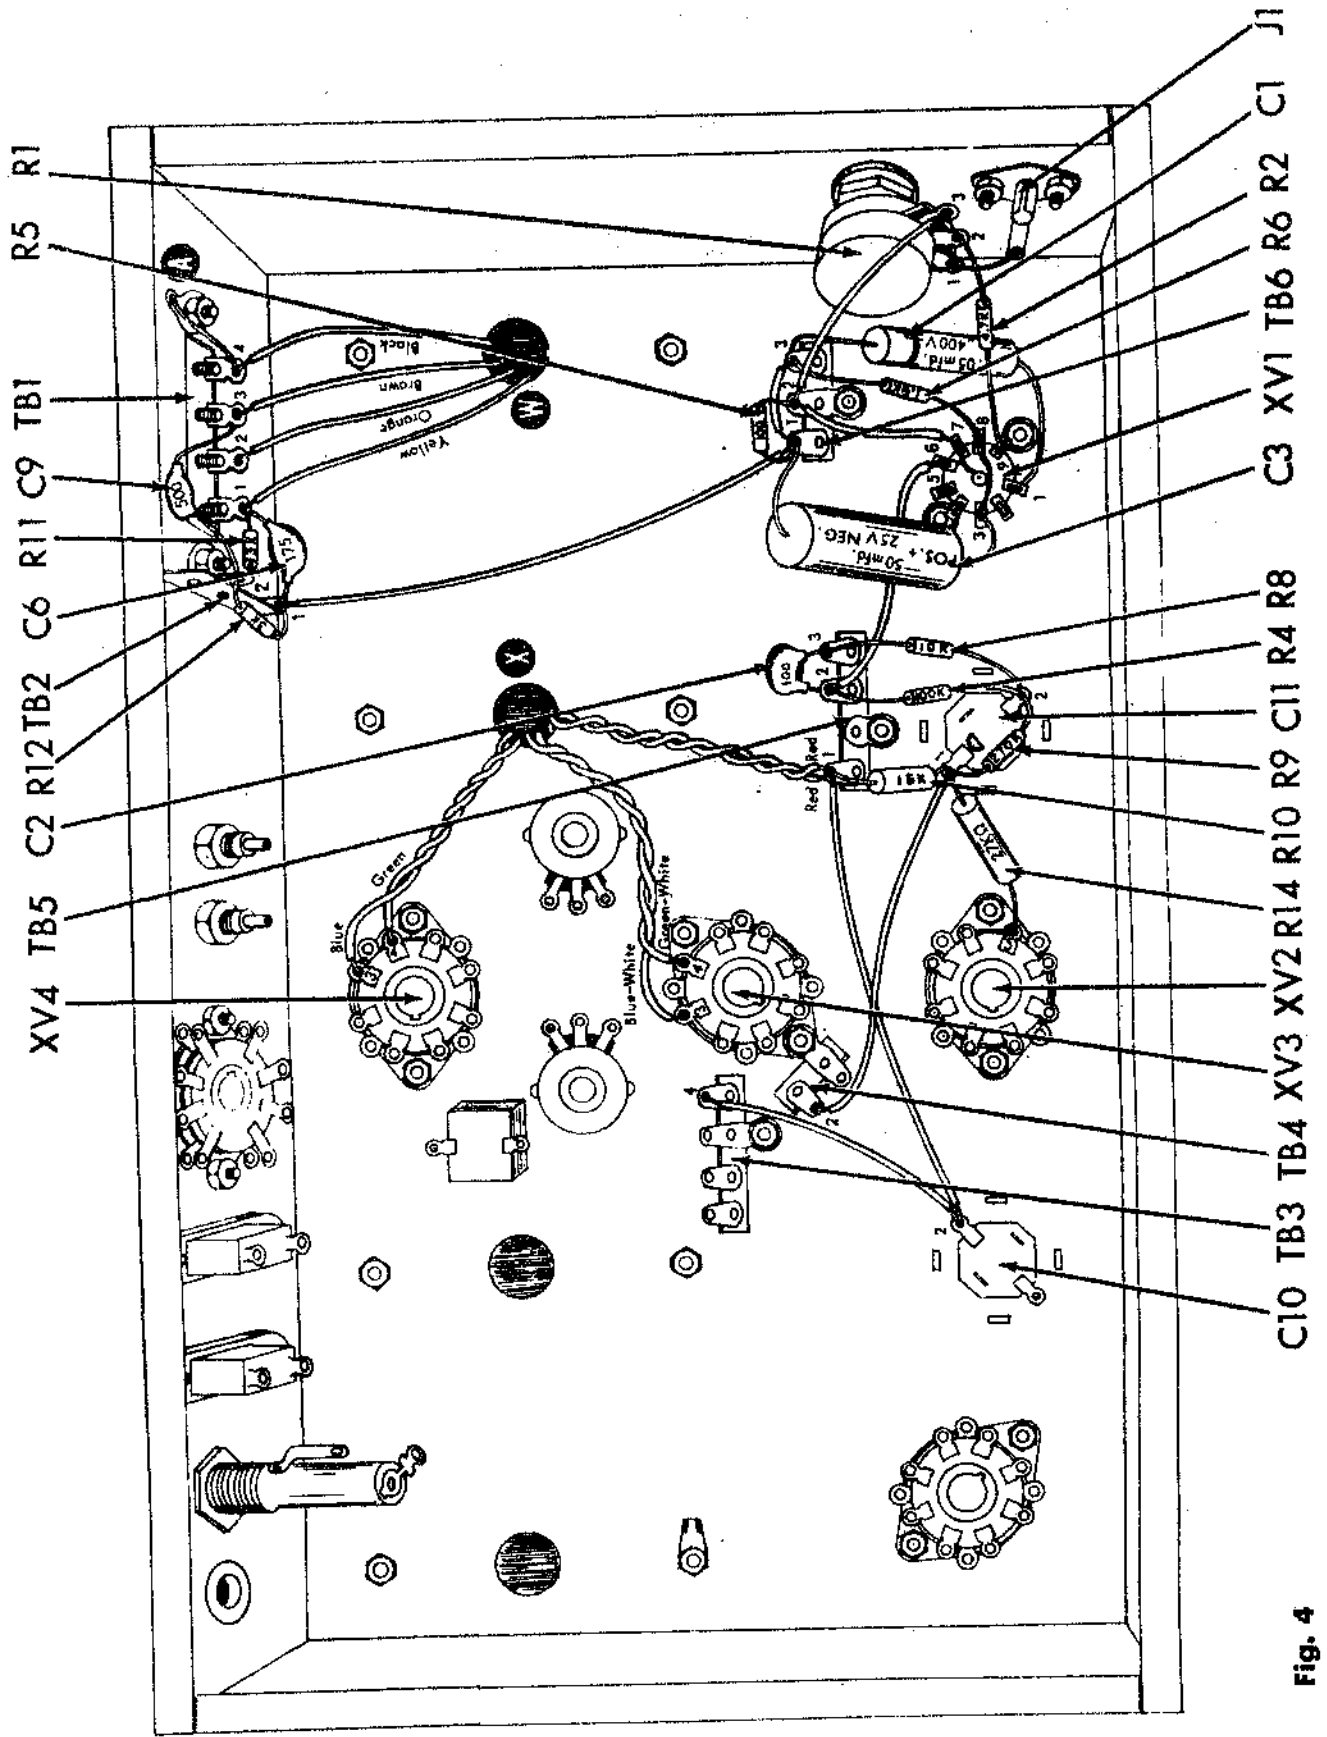

Fig. 4
7. () Fig. 2, side C & Fig. 4. Mount the output transformer, T1. Orient the transformer so that the proper colored leads emerge from holes "Y" and "W" on Fig. 3. Use four #10-32 hex nuts and four #10 lockwashers.
1. () Fig. 4. Connect a 5" red lead from C11-1 (C) to TB4-2 (C).
2. () Fig. 4. Connect a 4" red lead from C10-2 (C) to TB3-4 (C).
3. () Fig. 4. Connect a 6" red lead from C10-2 (S) to TB5-1 (C).
4. () Fig. 4. Connect a 27K Ω (red, violet, orange, gold) 5% resistor, R14, from XV2-5 (C) to C11-1 (C). Cut both leads to 3/4".
5. () Fig. 4. Connect a 270K Ω (red, violet, yellow, silver) 10% resistor, R9, from C11-1 (C) to C11-2 (C). Cut both leads to 1/2".
6. () Fig. 4. Connect a 15K Ω (brown, green, orange, silver) 10% resistor, R10, from C11-1 (S) to TB5-1 (C). Cut both leads to 1/2".
7. () Fig. 4. Connect a 100K Ω (brown, black, yellow, gold) 5% resistor, R4, from C11-2 (C) to TB5-2 (C). Cut both leads to 3/4".
8. () Fig. 4. Connect a 3" green lead from XV1-6 (S) to TB5-2 (C).
9. () Fig. 4. Connect a 100mmf disc capacitor, C2, from TB5-2 (S) to TB5-3 (C). Cut both leads to 1/2".
10. () Fig. 4. Connect a 10K Ω (brown, black, orange, silver) 10% resistor, R8, from C11-2 (C) to TB5-3 (S). Cut both leads to 1".
11. () Fig. 4. Connect a 1 1/2" black lead from TB6-1 (C) to TB6-3 (C).
12. () Fig. 4. Connect a 2 3/4" black lead from TB6-2 (C) through XV1-7 (S) to XV1-center post (S).
13. () Fig. 4. Connect a 1.6K Ω (red, blue, red, silver) 5% resistor, R6, from TB6-3 (C) through XV1-8 (S) to XV1-3 (C). Use a 1/2" piece of spaghetti between pins XV1-8 and XV1-3. Cut the lead to TB6 to a 1" length and the other lead to a 1 1/2" length.
14. () Fig. 4. Connect a .05mf (green, black, orange, white, yellow) capacitor, C1, from TB6-3 (S) to XV1-1 (C). Cut the lead to TB6 to a 3/4" length and the other lead to a 1 1/4" length. Use a 1" piece of spaghetti on the 1 1/4" lead.
15. () Fig. 4. Connect a 1 1/2" piece of bare wire from J1 (S) to R1-1 (S).
16. () Fig. 4. Connect a 2" black lead from R1-3 (S) to TB6-2 (C).
17. () Fig. 4. Connect a 6" black lead from TB2-1 (C) to TB6-1 (C).
18. () Fig. 4. Cut the two red leads from hole "X" to 4". Twist the leads together and connect both leads to TB5-1 (S).
19. () Fig. 4. Cut the green-white lead from hole "X" to 3 1/2" and the blue-white lead to 4". Twist the leads together; then connect the green-white to XV3-4 (S) and the blue-white to XV3-3 (C).
20. () Fig. 4. Cut the green lead from hole "X" to 3" and the blue lead to 3 1/2". Twist the leads together; then connect the green lead to XV4-4 (S) and the blue lead to XV4-3 (S).
21. () Fig. 4. Cut all leads from hole "W" to 3 1/4". Connect the black lead to TB1-4 (C), the brown lead to TB1-3 (C), the orange lead to TB1-2 (S) and the yellow lead to TB1-1 (C).
22. () Fig. 4. Connect a 1 1/4" bare lead from TB1-4 (S) to ground lug "A" (S).
23. () Fig. 4. Connect a 175mmf disc capacitor, C6, from TB1-1 (C) to TB2-1 (C). Cut each lead to 3/4". Use 1/2" spaghetti on each lead.
24. () Fig. 4. Connect a 3K Ω (orange, black, red, gold) 5% resistor, R11, from TB1-1 (S) to TB2-2 (C). Cut each lead to 1/2".
25. () Fig. 4. Connect a 500mmf disc capacitor, C9, from TB1-3 (S) to TB2-2 (C). Cut each lead to 1". Use 3/4" spaghetti on each lead.
26. () Fig. 4. Connect a 3K Ω (orange, black, red, gold) 5% resistor, R12, from TB2-2 (S) to TB2-1 (S). Cut each lead to 3/4".
27. () Fig. 4. Connect a 4.7K Ω (yellow, violet, red, silver) 10% resistor, R2, from R1-2 (S) to XV1-9 (S). Cut leads to 3/4".
28. () Fig. 4. Connect a 100 Ω (brown, black, brown, gold) 5% resistor, R5, from TB6-2 (S) to TB6-1 (C). Cut leads to 1/2".
29. () Fig. 4. Connect a 50mfd, 25V electrolytic capacitor, C3, from XV1-3 (S) to TB6-1 (S). Connect + side to XV1-3. Cut leads to 3/4".